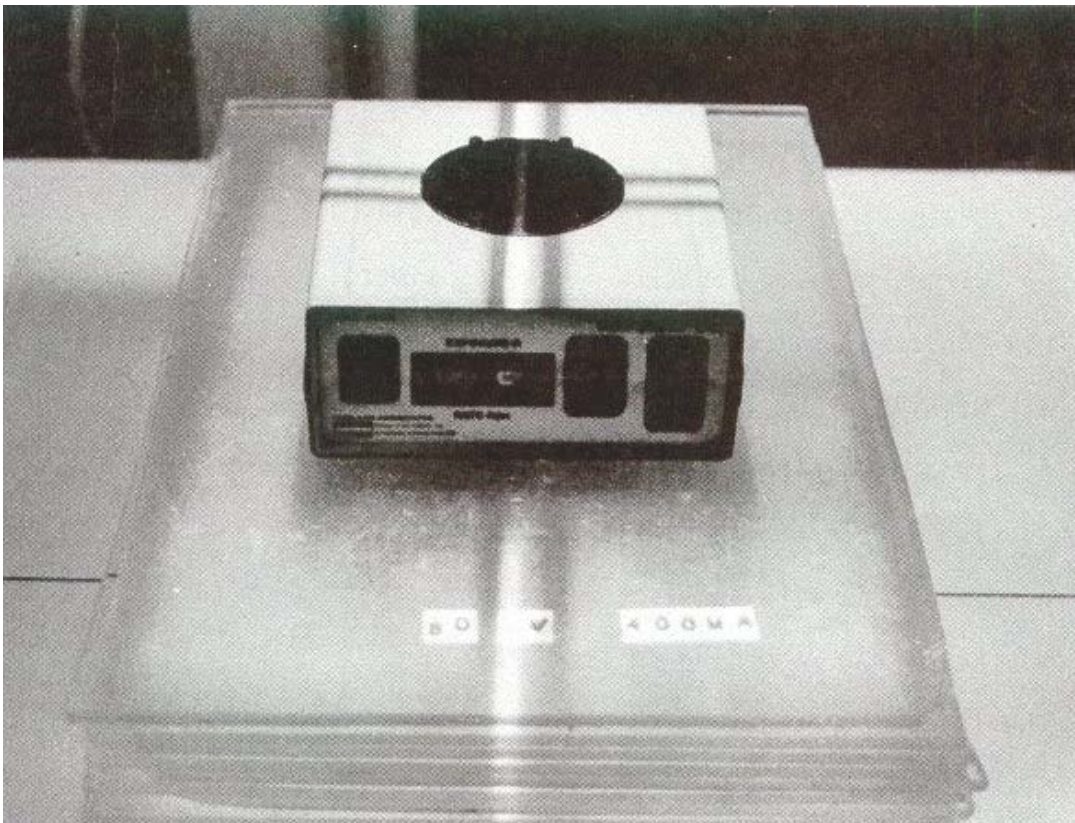

Figure 4-16. Set up for first exposure from example 4-28, a through c.
- a. Add two more pieces of Plexiglas to the base phantom for a total thickness of six inches (see figure 4-16).